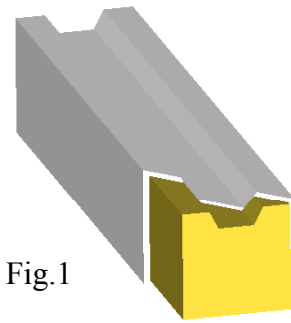

Fig.1
1. Floor screed (Fig.1) is shipped in 12' lengths with one end mitered to 45°